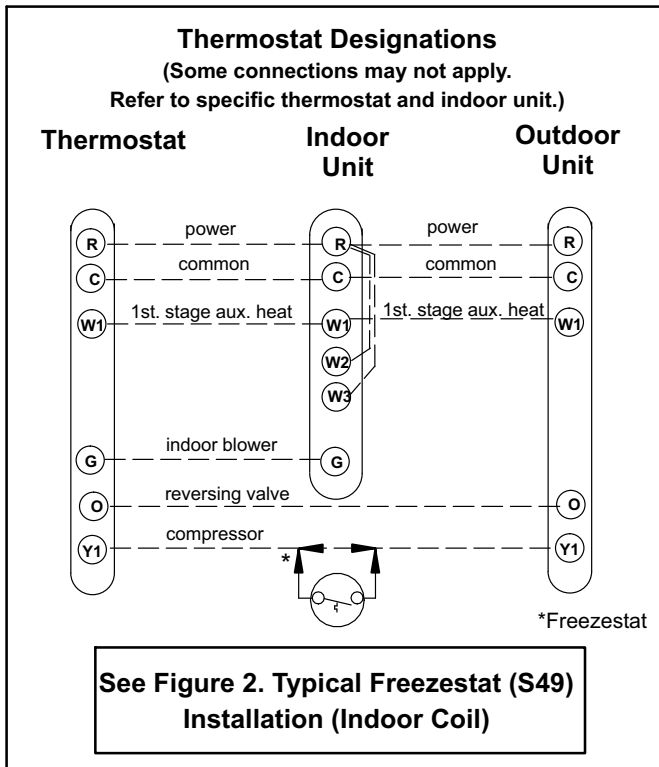

Figure 3. S49 Freestat Wiring
3. - Connect freezestat (S49) wires as exemplified in figure 3.